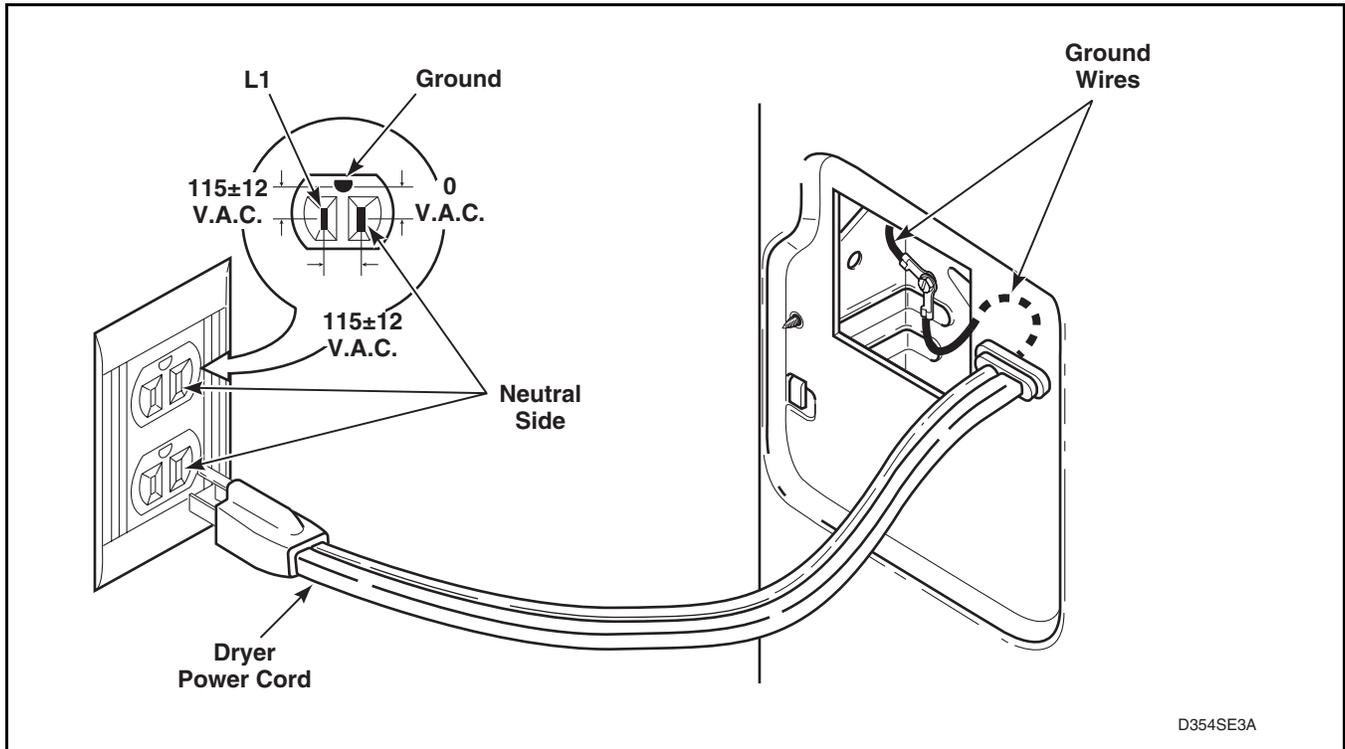

Figure 40
- (1) Remove access plate on rear of cabinet.
- (2) Remove strain relief.
- (3) Remove screw holding power cord ground wire to rear bulkhead. Refer to *Figure 40*.
- (4) Disconnect moxex plug and remove power cord from rear of dryer cabinet.